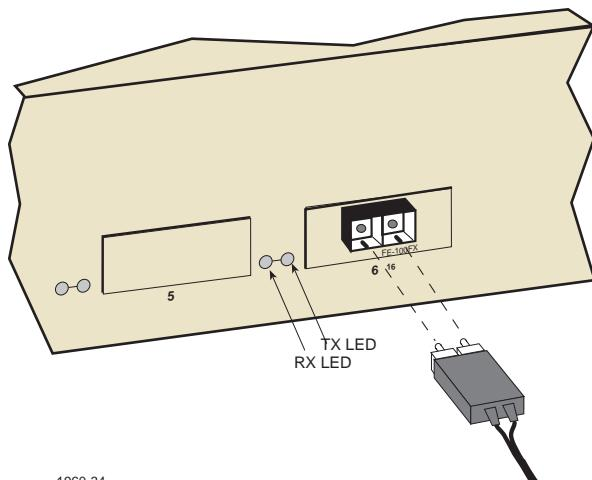

Figure 3-4 Connecting a Fiber Optic Segment
The FE-100FX and FE-100F3 have an SC style network port (see Figure 3-4). Cabletron Systems supplies fiber optic cable that uses SC style connectors that are keyed to ensure proper crossing over of the transmit and receive fibers.
2. Insert one end of the SC connector into the FE-100FX or FE-100F3 installed in the 6H123-50. See Figure 3-4.